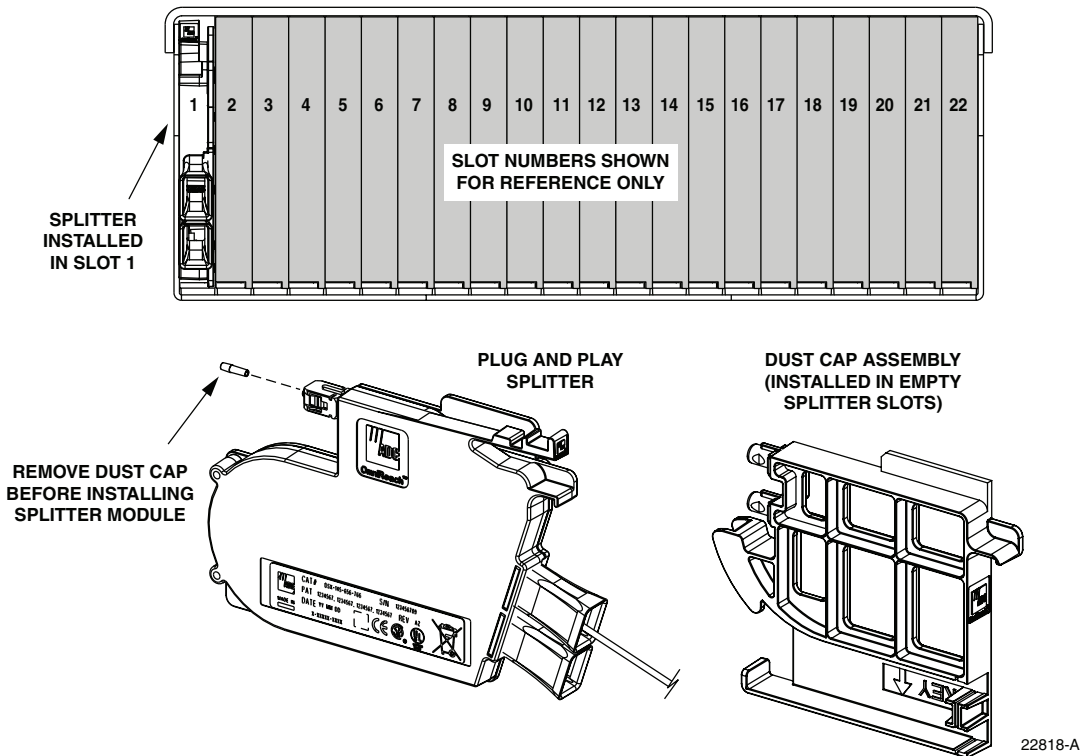

Figure 40. Splitter Module Installation
2. Locate the next available splitter mounting position as shown in Figure 40.
7. Remove the dust cap from the splitter connector (see Figure 40).